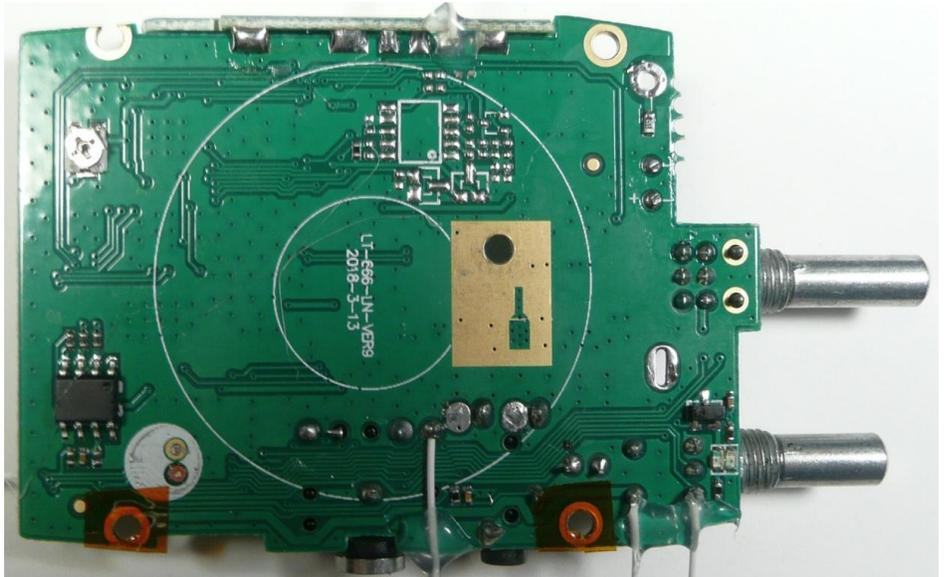

Figure 5 - Kapton tape installed at two mounting holes
Figure 5 shows another potential problem that I discovered. In the new board layout, I noticed that the PC trace distributing power to the BF888S board is now routed closer to the two mounting holes nearest the external speaker jack. This trace is insulated from the conductive aluminum spacers by the thin epoxy solder mask applied when the bare PC board is fabricated. The 3/16" diameter, 1/4" long spacers we use to mount the BF888S board to the BRIAN motherboard could possibly short to this trace if the epoxy solder mask was missing or failed.
Therefore, I suggest that small pieces of Kapton tape be applied to these two mounting points as shown in Figure 5. I will add a small piece of tape to the BRIAN (SM) kit to use for this purpose. Clear the mounting holes using an exacto knife after applying the tape.
As shown in Figure 5, the jumper wires are still attached to the solder pads in the same locations shown in the BRIAN Construction Manual.